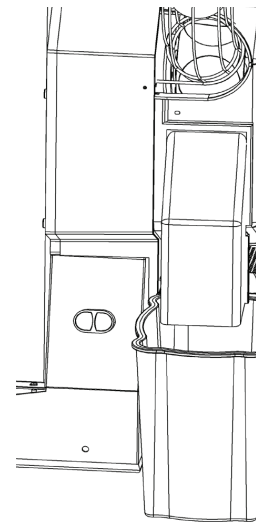

Figure 6
Press the green button on the On-Off Button located on the other side of your machine. **(Figure 6).**
- 1- Press the red button of your machine when the squeezing process is over. **(Figure 6).**